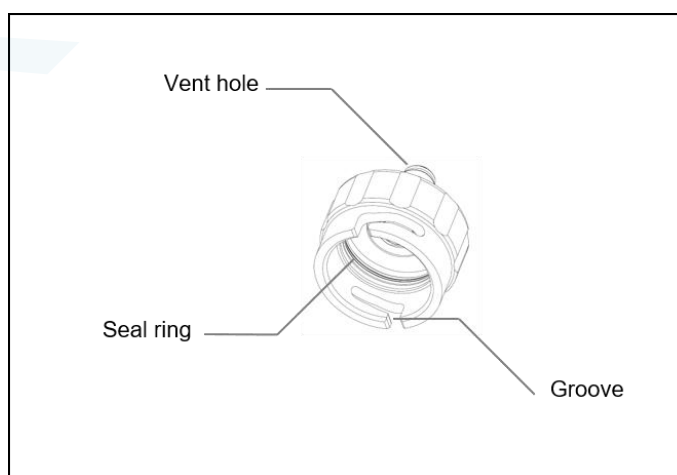

Figure 7.2
When cleaning, disinfecting and sterilizing, attach the waterproof cap to the electrical connector of the endoscope to prevent the connector from water ingress. When performing a water leak test, the vent port of the waterproof cap must be connected to the electronic endoscope leak tester (Figure 7.2).
1. Make sure the inner wall of the waterproof cap is completely dry and free of debris (Figure 7.2). If there is water or debris in the waterproof cap, please wipe it dry with a dry lint-free cloth.